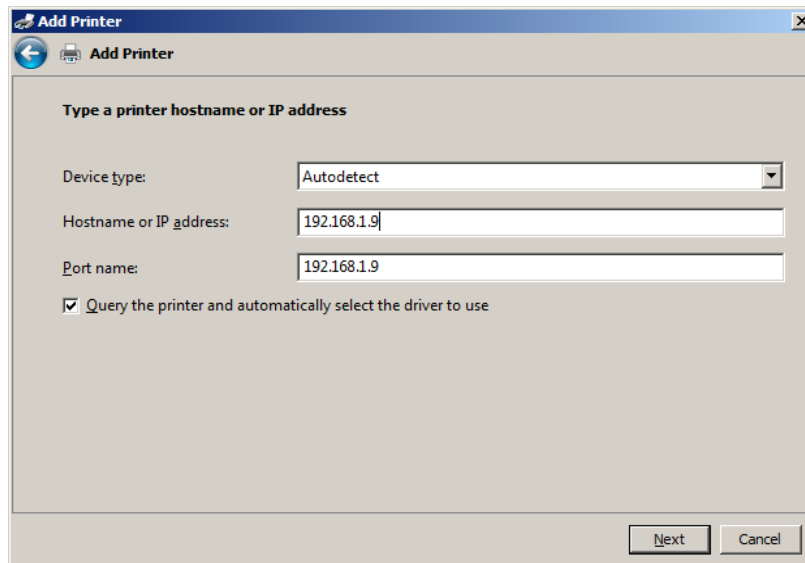

Figure 10.33 – Add Printer
- 14) On the next window for Hostname or IP address enter the Hostname or IP address of the printer you want to add. Port name should automatically fill in as you enter the IP address as shown below in Figure 10.33. Make sure the “**Query the printer and automatically select the driver to use**” box is checked. Hit **next**.